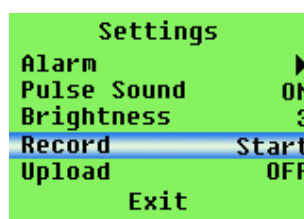

Figure 9.
a. On the main menu interface,press the"up button"or"down button",move the menu choice bar to"Record",then press the"menu button"again to enter the dialog box of figure 9;if it is in recording state,the"Stop" is displayed on menu;if it is not in recording state,the"Start" is displayed on menu.